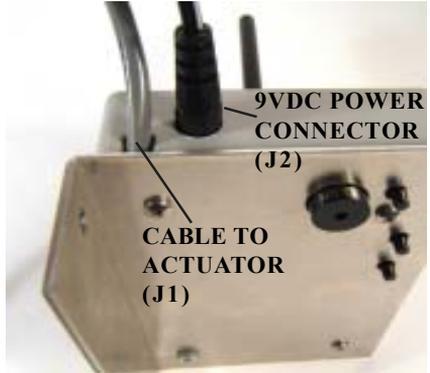

FIGURE 5
5. Remove the 9VDC power pack cord from J2, (figure 5 & 8), to activate the internal battery back-up.